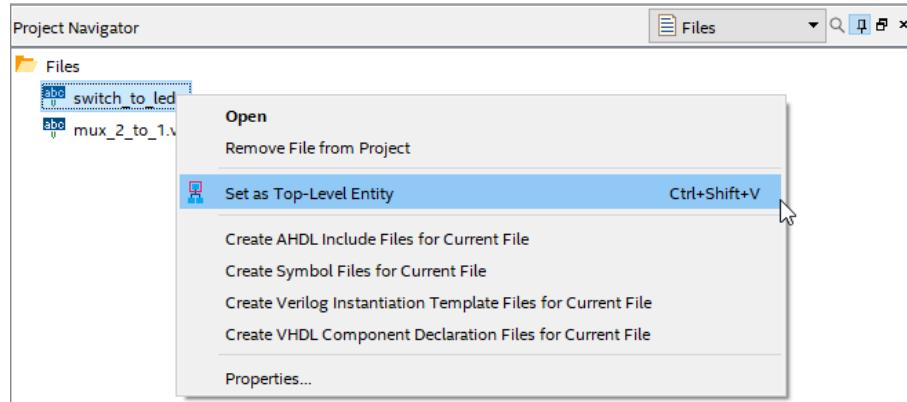

Figure 22: Changing Top Level Entity
- The RTL Viewer can be found under task on the left-hand side by looking into the **Analysis & Synthesis** dropdown and then the **Netlist Viewers** dropdown, as shown in Figure 22. Once opened, you should see a 2-to-1 mux similar to what is seen in Figure 23.